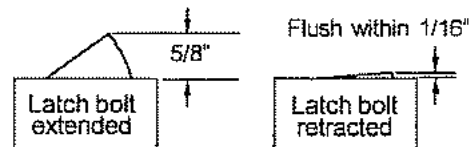

Figure 5
2. Depress pushbar and make sure latch bolts retract and extend fully (see Figure 5).
4. Check latch bolt(s) for full retraction (must clear strike (see Figure 5).
5. Release solenoid and check latch bolt extension (see Figure 5).